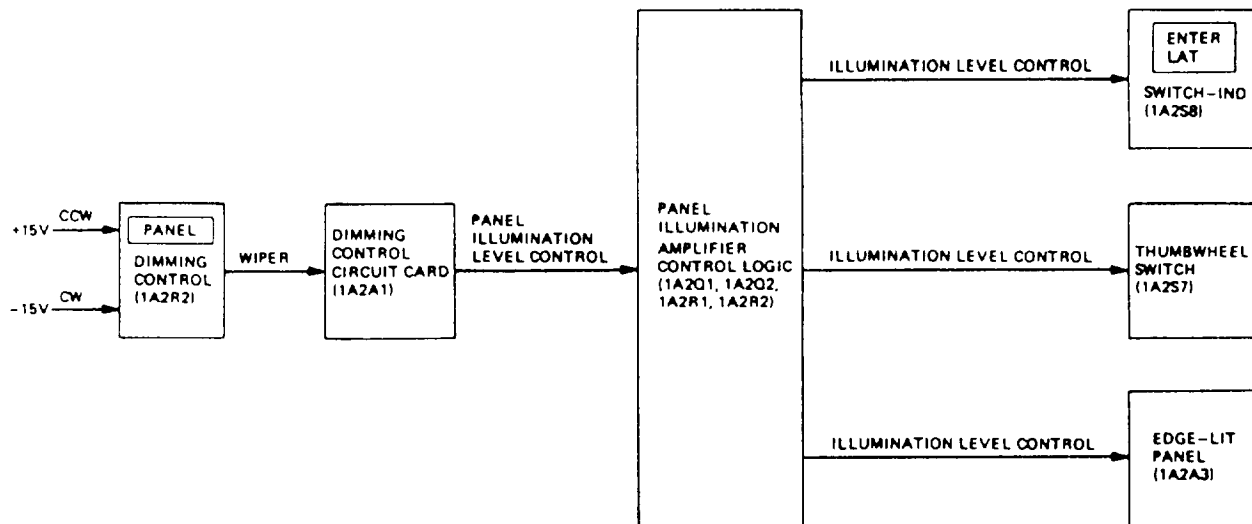

Figure 4-49.—Panel Lighting dimming block diagram.
Two circuits control the level of illumination of the control-indicator's panel lighting and indicators. These circuits are illustrated in block diagrams in figures 4-49 and 4-50.
**PANEL LIGHTING.**— The control indicator panel lighting is controlled by a potentiometer marked PANEL. The PANEL potentiometer is excited by  $\pm 15$  volts dc. The potentiometer adjusts a biasing level applied to the illumination sensing circuit in the dimming control circuit card. The output of the sensing circuit drives the dimming control amplifier. The output of the dimming control amplifier is an aboveground variable voltage determined by the position of the PANEL potentiometer. Figure 4-49 identifies the lights controlled by the PANEL potentiometer.